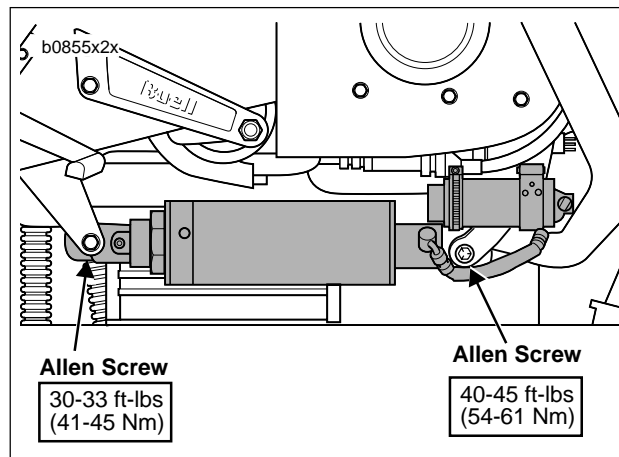

Figure 2-79. Shock Mounting Hardware
- See Figure 2-79. Remove allen screw (metric) and locknut on front mount. Discard locknut.
- See Figure 2-79. Loosely install rear allen screw (metric) and **new** locknut.